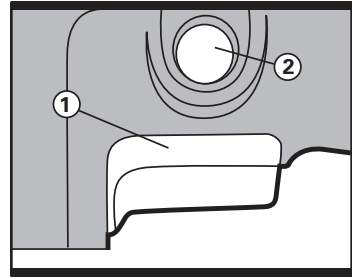

Fig 1
Depress on/off switch (1) then lock-on button (2) (See Fig 1), release on/off switch first and lock-on button second. Your switch is now locked on for continuous use. To switch off your tool just depress and release the on/off switch.